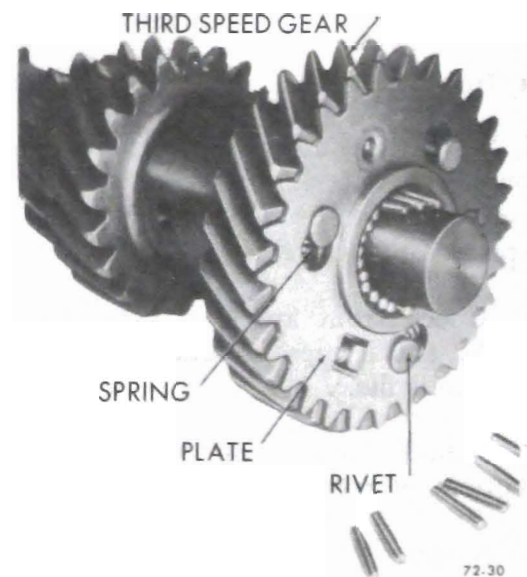

Figure 72-30 - Anti-rattle
2. Check for broken anti-rattle gear springs. See Figure 72-30.